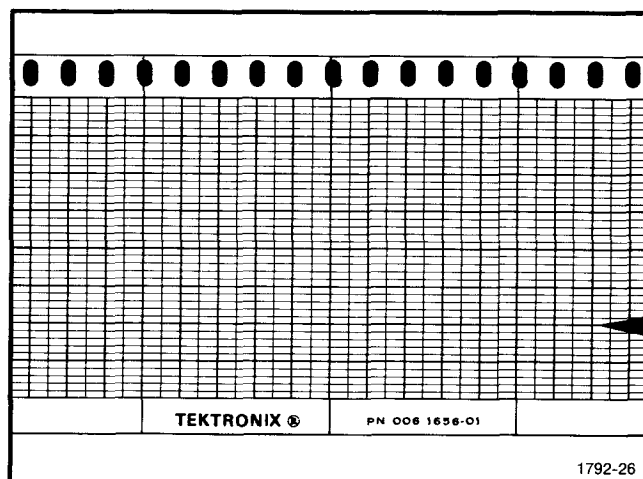

Fig. 4-1. Stylus Position adjusted.
e. ADJUST—the recorder STYLUS POSITION control so that the stylus is lined up with the second bold line from the right on the chart paper (see Fig. 4-1).